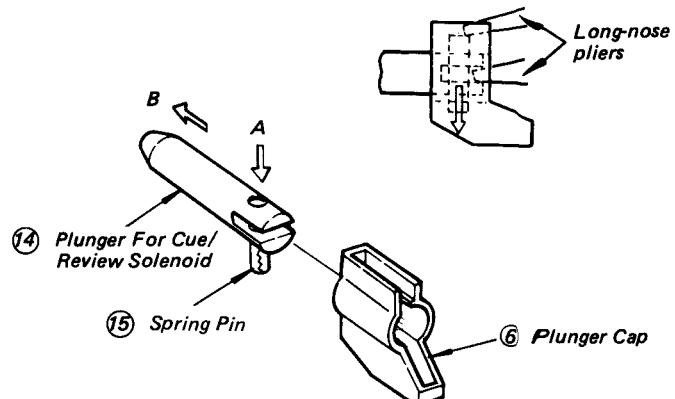
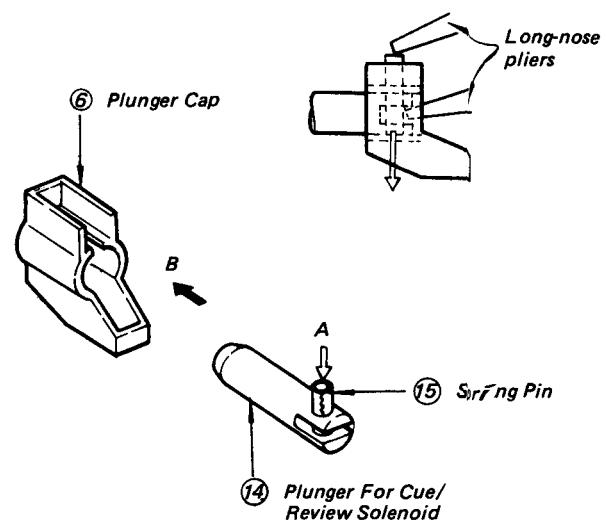

Fig. 5-82 Plunger Removal
Fig. 5-83 Plunger Installation
2. Remove the screw ⑬ holding the lift arm holder ③.
3. Take out the lift arm holder ③ for removal.
4. Remove the two screws ⑫ holding the cue/review solenoid ④ body.
5. Replace the cue/review solenoid ④ body.
6. Push the spring pin ⑯ is the direction A (↓) into the plunger ⑭ of the cue/review solenoid using a long-nose pliers (see Fig. 5-82).
7. Pull the plunger ⑭ in the direction B (←) out of the plunger cap ⑥ for removal.
8. To reinstall, insert the plunger ⑭ into the plunger cap ⑥ by pushing in the direction B (→).
9. Then, push the spring pin ⑯ to the center of the plunger cap ⑥ by pushing in the direction A (↓) (see Fig. 5-83).
10. Put the cue/review solenoid ④ in position together with the plunger ⑭ .
11. Then, tighten the two screws ⑫ to temporarily hold them to the planetary gear unit assembly ①.
12. Tighten the screw ⑬ to hold the lift arm holder ③ with the lift arm fitted with the plunger cap ⑥ .